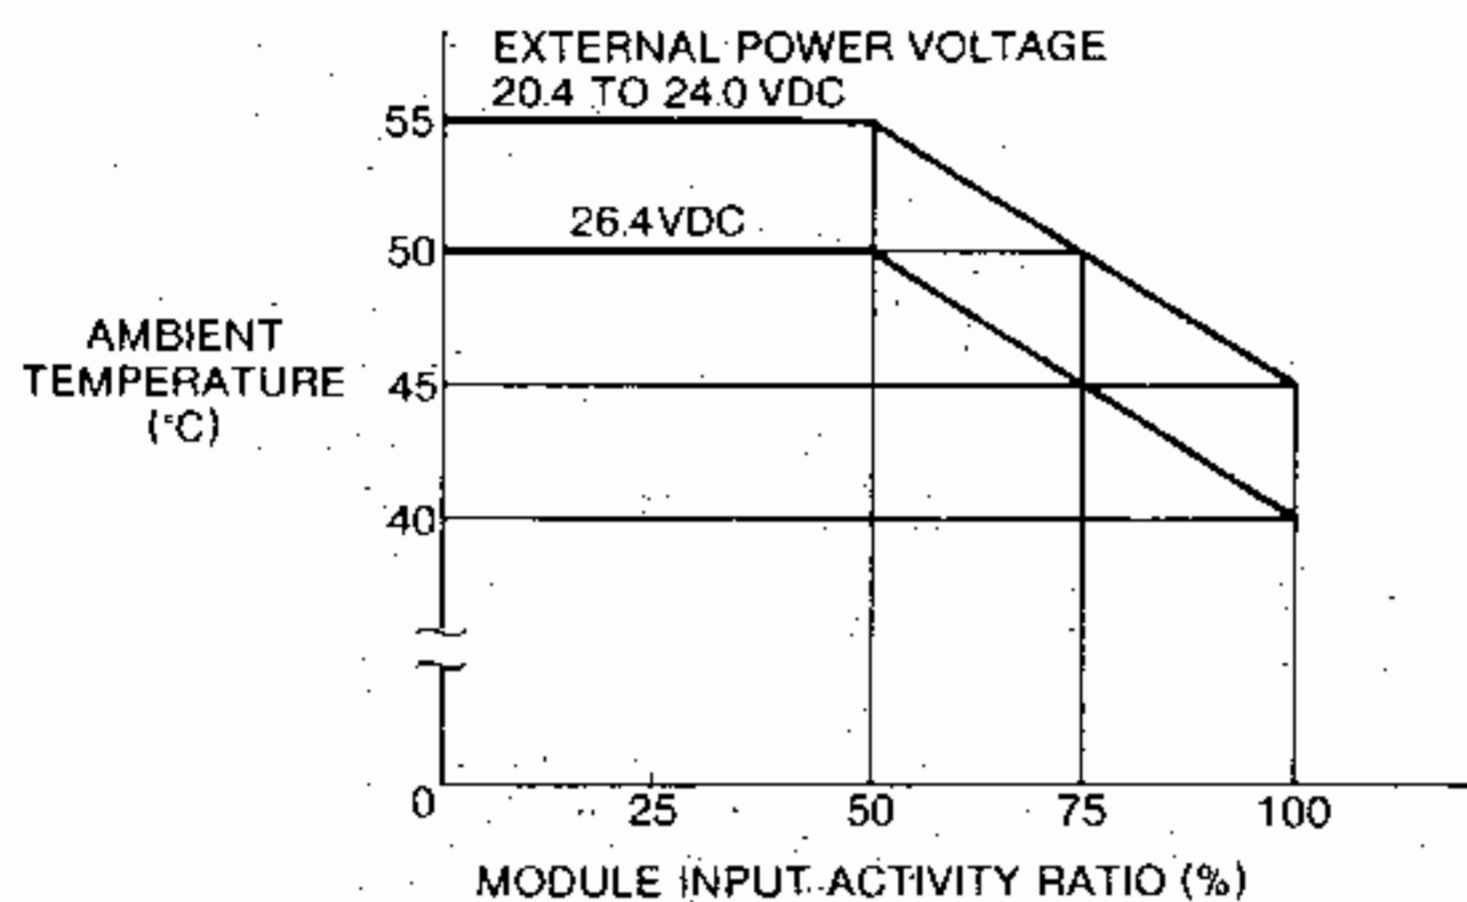

Fig. 5.46 Allowable Ambient Temperature
(6) Note for Using I/O Modules B1061 and B1063
- When using 64-input module B1061 or 32-input module B1063, use them within ambient temperature ranges shown in Fig. 5.46. Fig. 5.46 shows allowable ambient temperature according to the external power voltage and module input activity ratio.